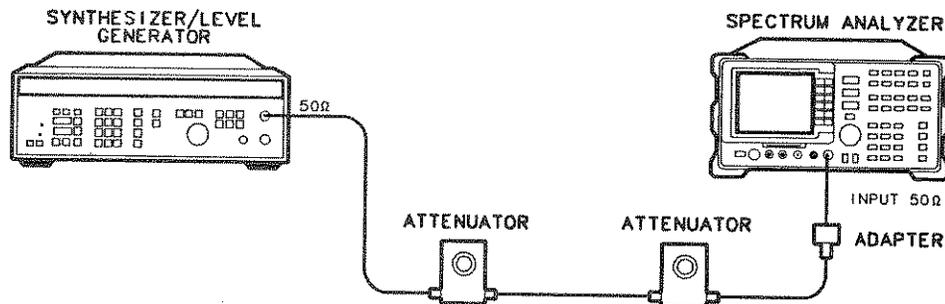

Figure 4-10. Scale Fidelity Test Setup
2. Connect the equipment as shown in Figure 4-10. (*Option 026*: use the BNC to SMA and 3.5 mm adapters instead of the type N to BNC adapter). Set the HP 355D to 10 dB attenuation and the 355C to 0 dB attenuation.